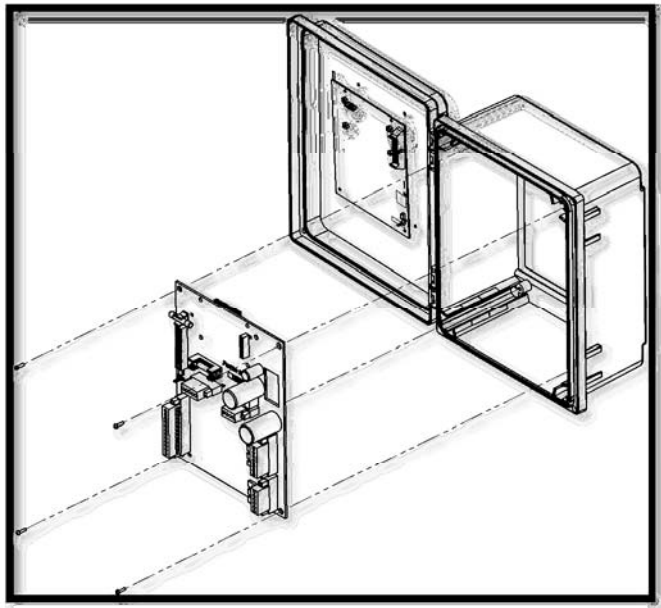

Figure 8
2. Remove the 4 screws that hold the terminal card in place in the product enclosure. Do not lose these screws as you will need them later. See Figure 8.
5. Place the terminal card back into the product enclosure and fasten it using the 4 screws removed previously. Tighten to between 12 and 26 in*lbs taking care to not leave any screws loose enough that the terminal card rattles around and not too tight that the enclosure holes begin to strip out. See Figure 8.